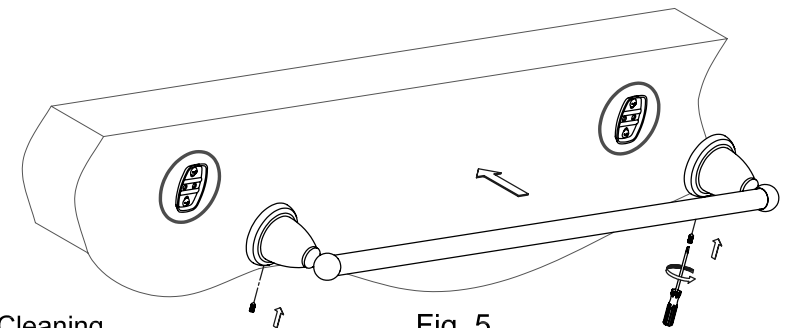

Fig. 5
- Step 7. Place the unit, with the small hole of cover plate underneath, over the mounting plate by tightening slotted set screw with flat head screwdriver until the base is tightly fixed. (Fig.5)